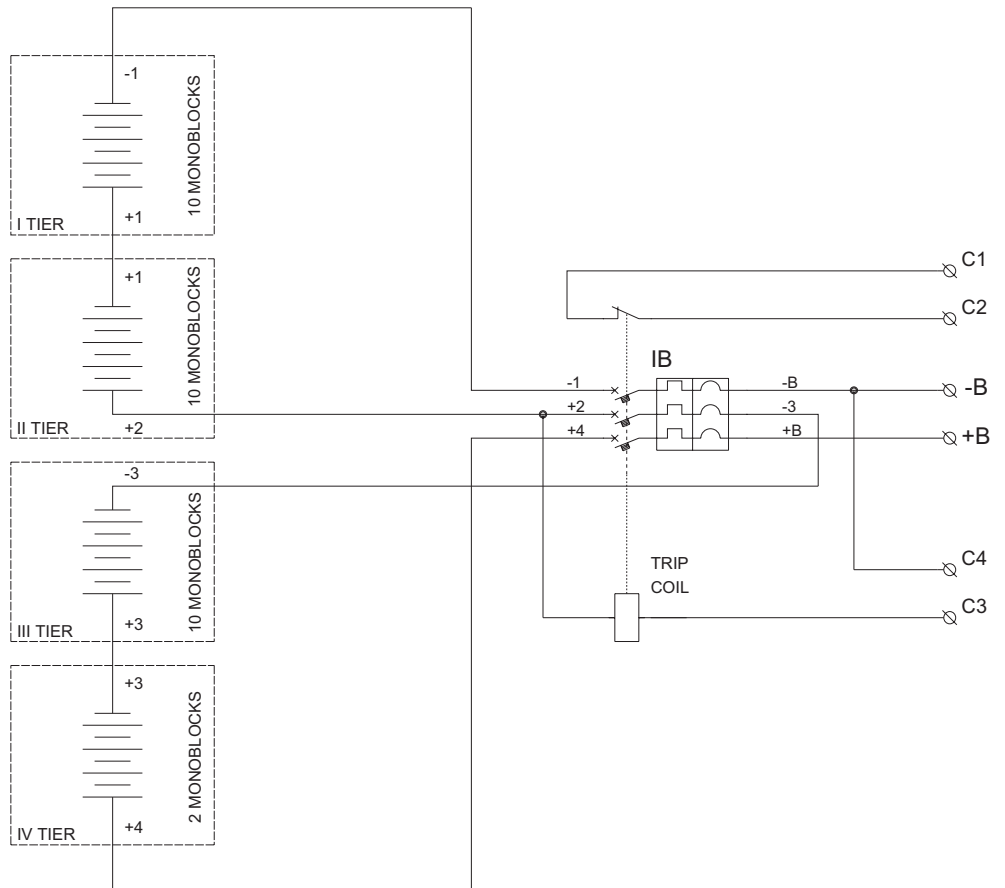

FIG. 1.10.4 BC4L internal electrical connections
- Connect the battery blocks of the various levels to the battery switch IB, and IB to the terminals, as shown in fig. 1.10.4